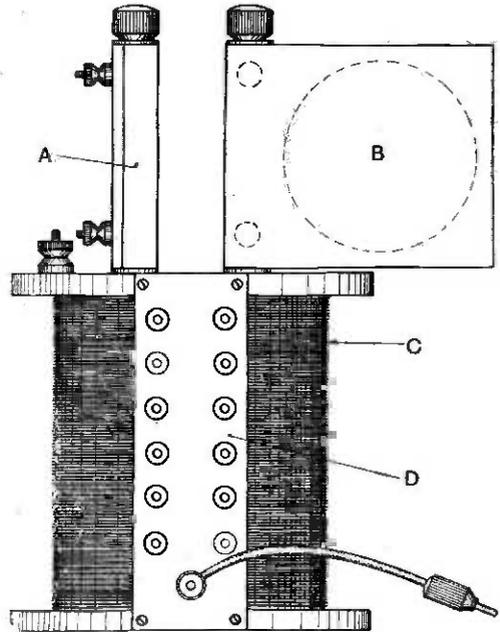

Fig. 17. This sort of tapped coil, with variometer, is often used in small transmitters.
(H) A variable inductance, which is especially useful in a transmitter, is given in Fig. 17. It consists of a cylindrical coil C, from which tappings are taken to the sockets secured to the ebonite strip D. On the top of the coil is fixed a flat coil, such as a pancake or spiral, marked A, and a similar coil, B, is provided and is pivoted so that the coupling between coils A and B is easily variable. It should be arranged that the inductance variation possible with the variometer (coils A and B) exceeds that between the tappings. Then we have a continuously variable inductance. Coils A and B are connected in series, and with the main coil C.